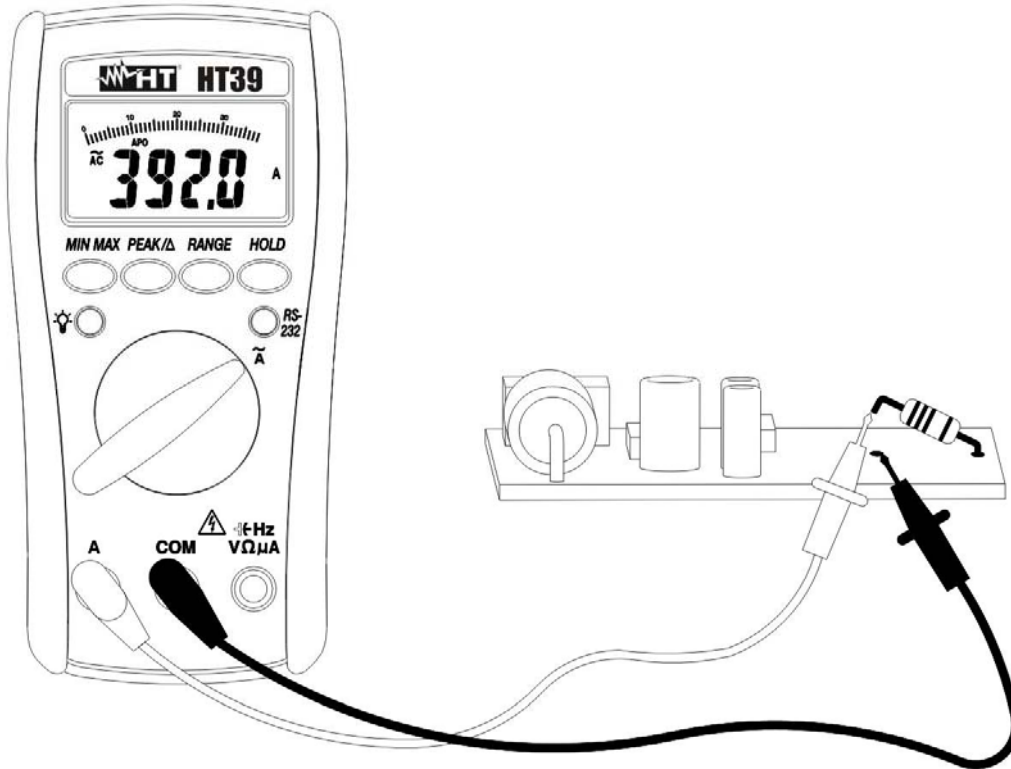

Fig. 6: AC current measurement
3. Insert the test leads into the jacks, the red plug into **A** jack and the black plug into **COM** jack (Fig. 6).